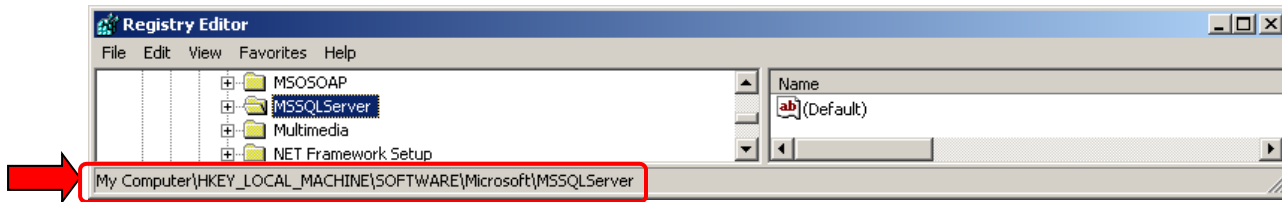

Figure II-36. Registry Editor – Entry to Delete
- h. Delete the following Registry entries (SQL Configuration) (such as the one shown in Figure II-36), if any of them exists: